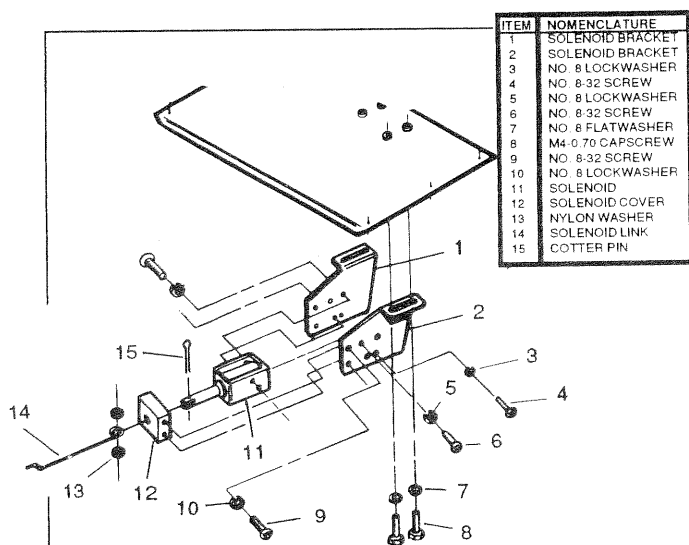

Figure 178. Idle Control Solenoid Assembly
See Figure 178. Two solenoid mounting brackets are retained to the fuel tank heat shield with four M4-0.70 x 10mm screws and flatwashers. The brackets are slotted to permit adjustment of the solenoid. The solenoid is sandwiched between the two brackets and retained by No. 8-32 x 3/8 inch screws and lockwashers. A solenoid cover is also sandwiched between the two mounting brackets. A cotter pin passes through two nylon washers, the solenoid plunger shaft, and the solenoid link.
- If engine is not idling at 24-28 Hertz, loosen the four screws that retain the idle control solenoid mounting brackets (Figure 178, Items 8). Move the brackets toward the engine to increase frequency, or away from engine to decrease frequency.